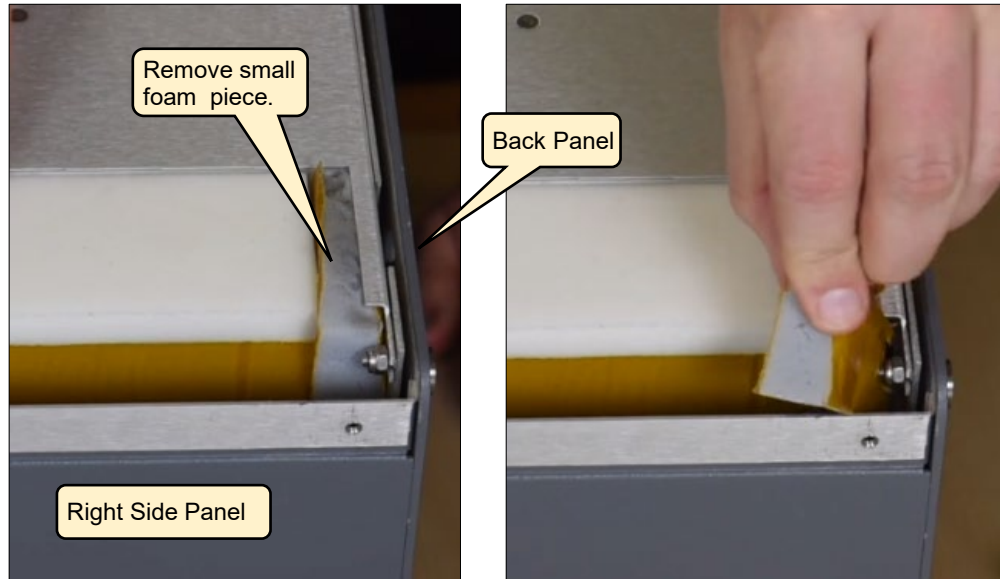

Figure 5: Bulkhead Foam Removal
4. Using the 5/8" wrench, loosen the retaining nut on the input bulkhead as shown in Figure 5 (about 1 full turn should be enough).